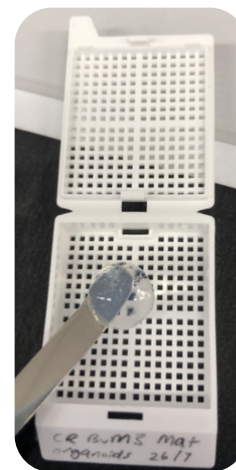

Figure 2. Transfer of agarose-embedded 3D model into a plastic histology cassette to proceed with tissue processing.
1. Using a spatula, transfer the agarose gel containing 3D cell model to a pre-labelled plastic histology cassette (**Figure 2**).